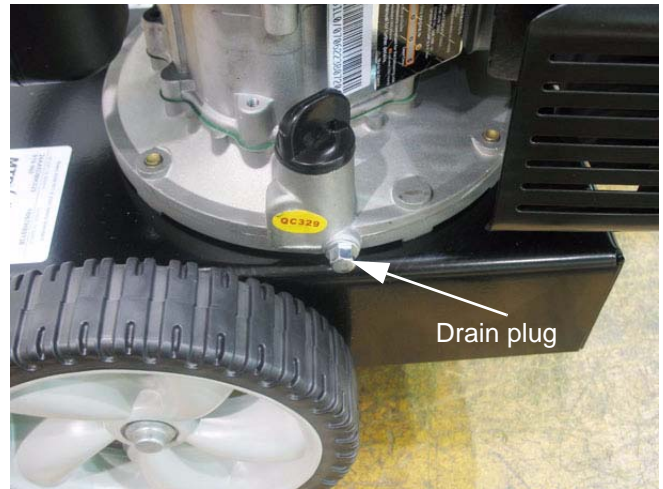

Figure 2.5
2. Oil can be drained by removing the drain plug located at the base of the dipstick tube using a 10mm wrench. See Figure 2.5.